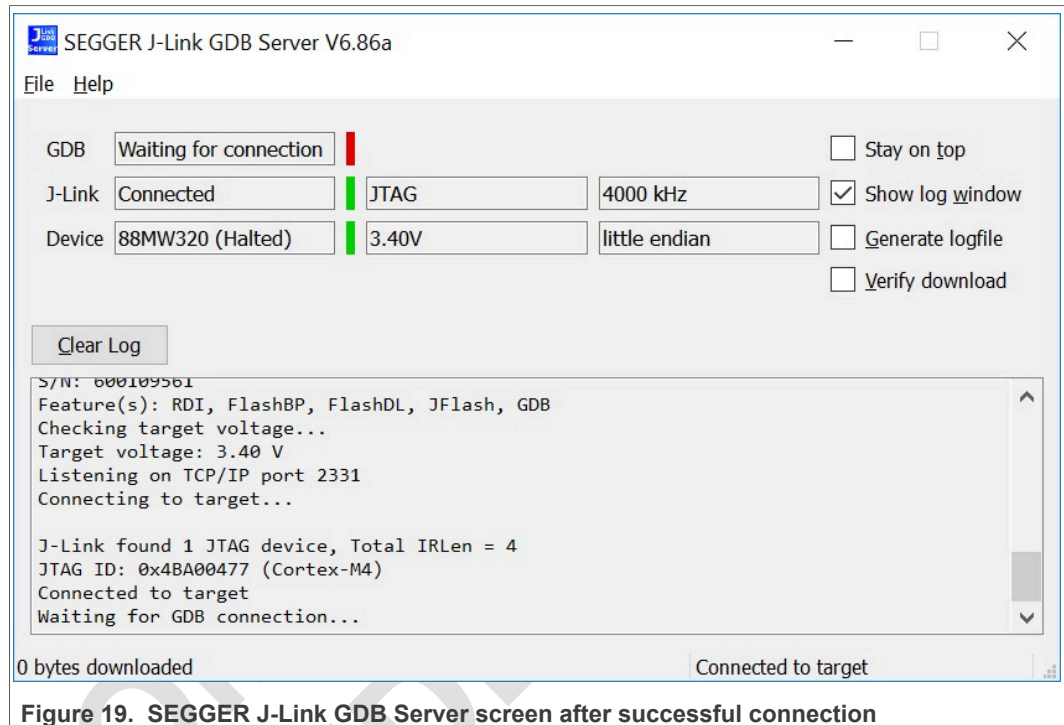

Figure 19. SEGGER J-Link GDB Server screen after successful connection
5. After it is connected, the screen should resemble Figure 19.